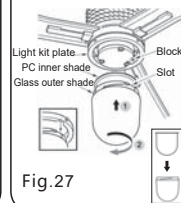

Fig.27
Step 6: Have the PC shade sit in the glass shade and then align the slot of the glass shade with the block on the light kit plate. Turn it clockwise until it stops at the end. (Fig. 27)